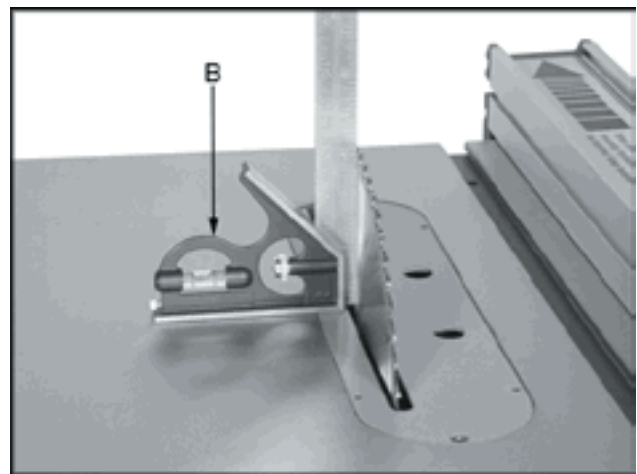

Figure 11
4. Place a square (B, Figure 11) on the table and check to see that the blade is at a 90° angle to the table, as shown in Figure 11. Make sure ruler is in-between the blade teeth.